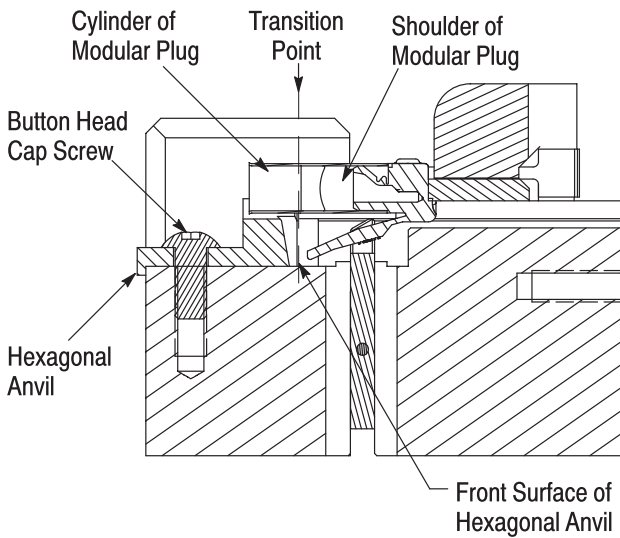

Figure 4
- b. Loosen the button head cap screw on the hexagonal anvil. See Figure 4.
**NOTE** *When the anvil is positioned properly, the front surface of the anvil is in the same vertical plane as the transition point between the modular plug cylinder and shoulder. See Figure 4.*